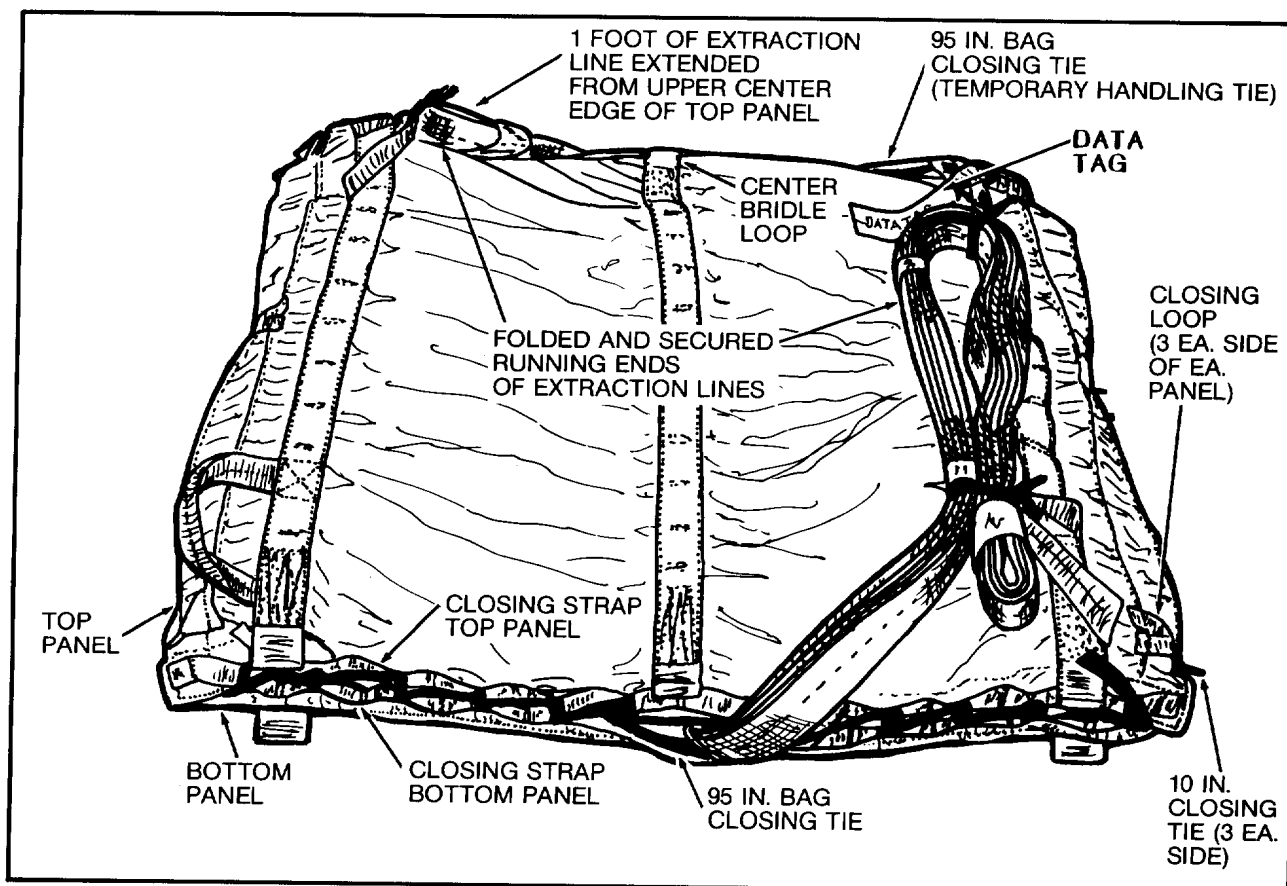

Figure 10. Extraction Line Bag Closed.
- d. Beginning at lower left corner of panels, secure one end of 95-inch nylon webbing closing tie to lacing loops located on outside edge of top and bottom panels with three alternating half-hitches and an overhand knot in running end (figure 10).
- i. Attach tag to complete Extraction Line Bag showing date stowed, who stowed extraction line, length and loop of extraction line (figure 10).